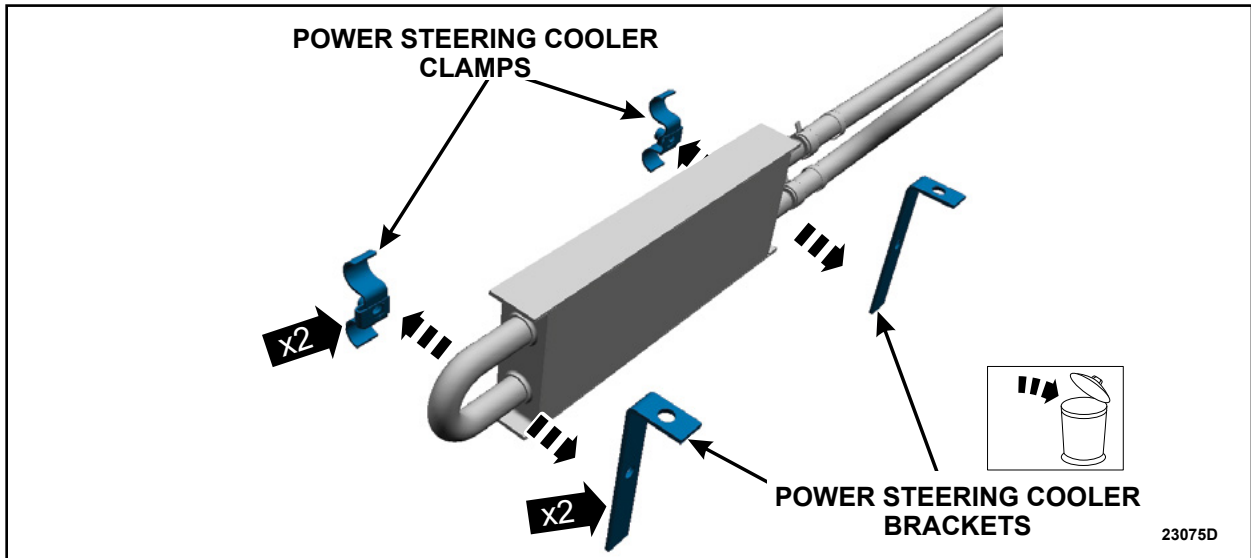

FIGURE 3
- On both sides of the power steering cooler, separate the cooler brackets and clamps and discard only the brackets. See Figure 3.